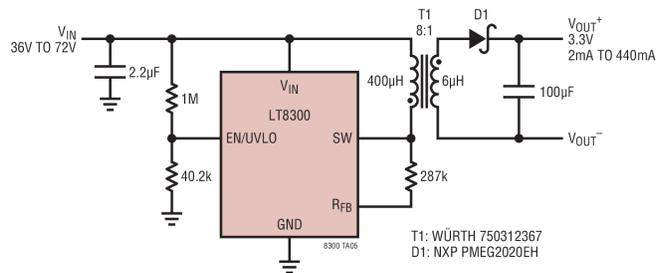

Figure 7. The LT8300 Typically Does Not Require a Snubber Circuit
It is common to see either the Zener diode clamp or the RC snubber used in a flyback circuit; and it also is common to see both, as shown in figure 1 above. A snubber circuit is generally recommended when using the high voltage LT8304 to protect the switch node; however, there are special cases when a snubber circuit is not needed, resulting in an even more simplified schematic and a smaller solution footprint. The LT8300 features a 150V/260mA internal power switch and is recommended when small size and fewest external components are key design parameters. It has robust switch protection and includes many circuits in the datasheet that do not include a snubber circuit as shown below in figure 8. . . , thus providing the smallest, simplest, lowest power solution for your isolated needs (Figure 7). Here, the switch pin (SW) will see a maximum voltage of V_{OUT} times the turns ratio (8:1) plus V_{IN} , or $3.3V * 8 + 72V$, or 96V. This is well below the switch's 150V absolute maximum rating.